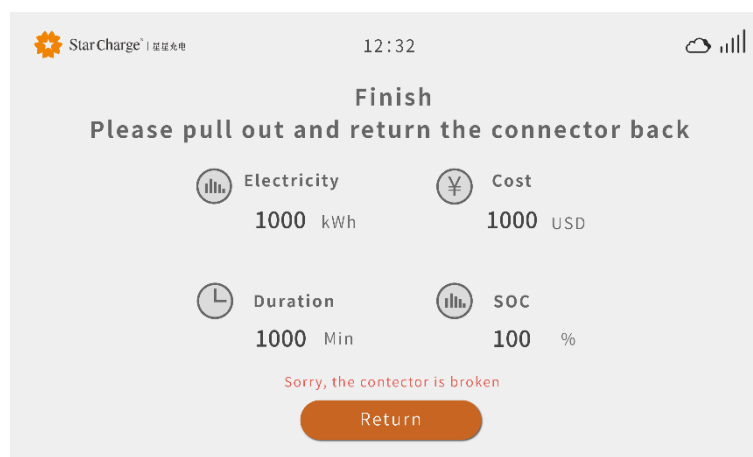

Figure 3-9 Abnormal charging interface
Step 10 Charging stops due to abnormalities on the charging device or vehicle. The system displays the following figure 3-9. Please contact the after-sales technical service for repair.